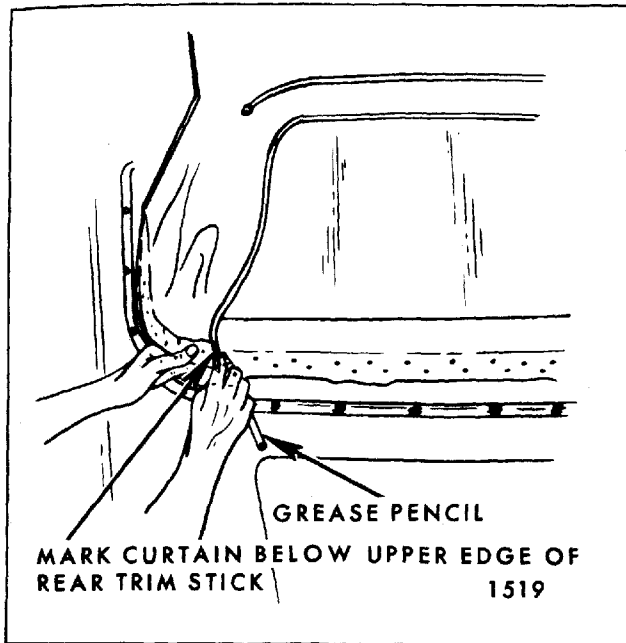

Fig. 6-48—Locating Edge Of Top Material
7. To establish relationship of right and left inner vertical edge of old top material to back curtain assembly at rear trim stick location, mark back curtain material at both locations with a grease pencil (Fig. 6-48). Reference marks should be transferred to new back curtain when step 3 of installation procedure is performed.